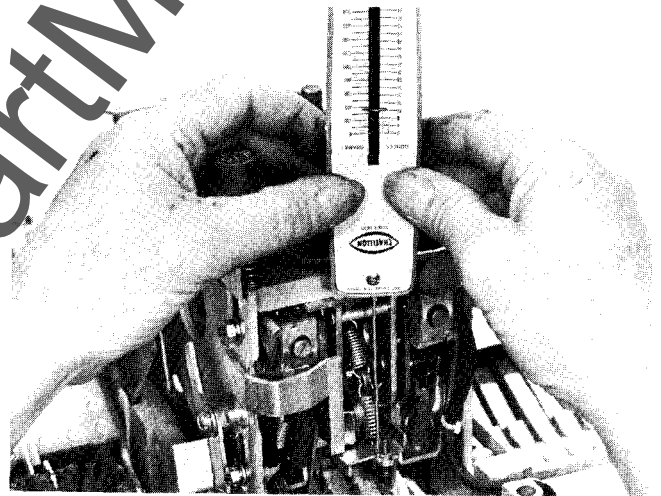

Figure 16.
2. Remove the breaker cover and using a compression type force gauge, push at a point beside the hole or screw in the breaker latch. Push down slowly and steadily and observe the maximum force to trip the breaker. See Figure 16.